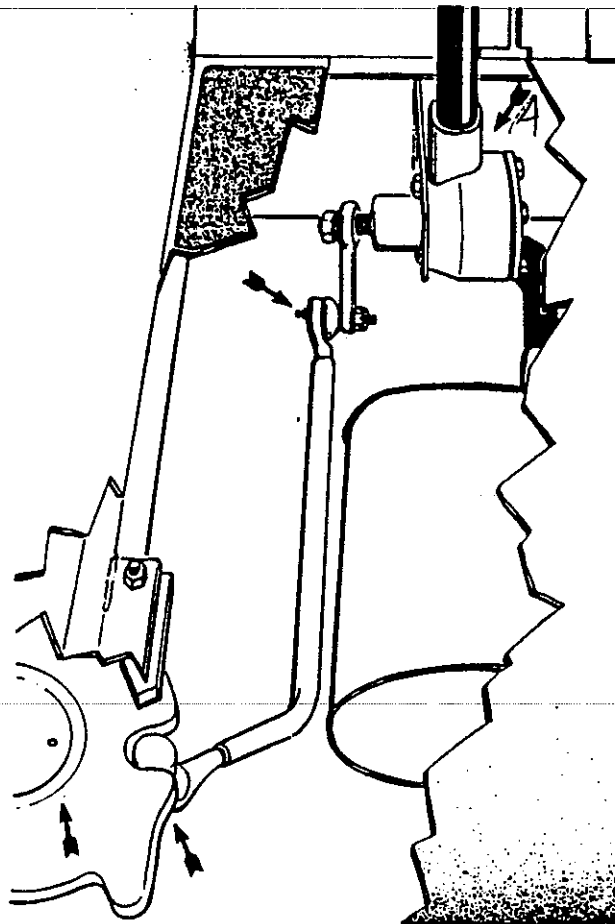

Figure 4-57. Steering Lubrication Points
4-105. Steering. Lubricate the grease points on the steering gear box (1) fitting, steering link arm (2) fittings and the steering fork assembly (1) fittings with lithium grease, see figure 4-57.